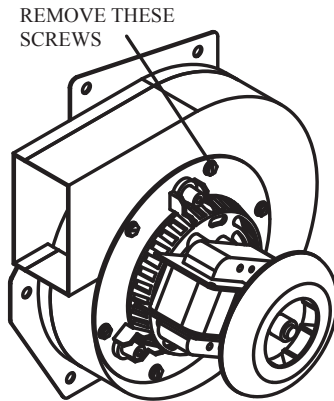

Figure 23. Exhaust fan assembly.
- c. Clean the exhaust fan and housing. Ash accumulation on the fan blades will reduce the life of your exhaust fan. Frequent cleaning will help extend the life of this component. Open the left side panel to access the exhaust fan. Using a Common (flat head) screwdriver, remove the 6 sheet metal screws holding the fan motor to the housing (See Figure 23). Using a brush, clean all ash from the exhaust fan blades and housing.